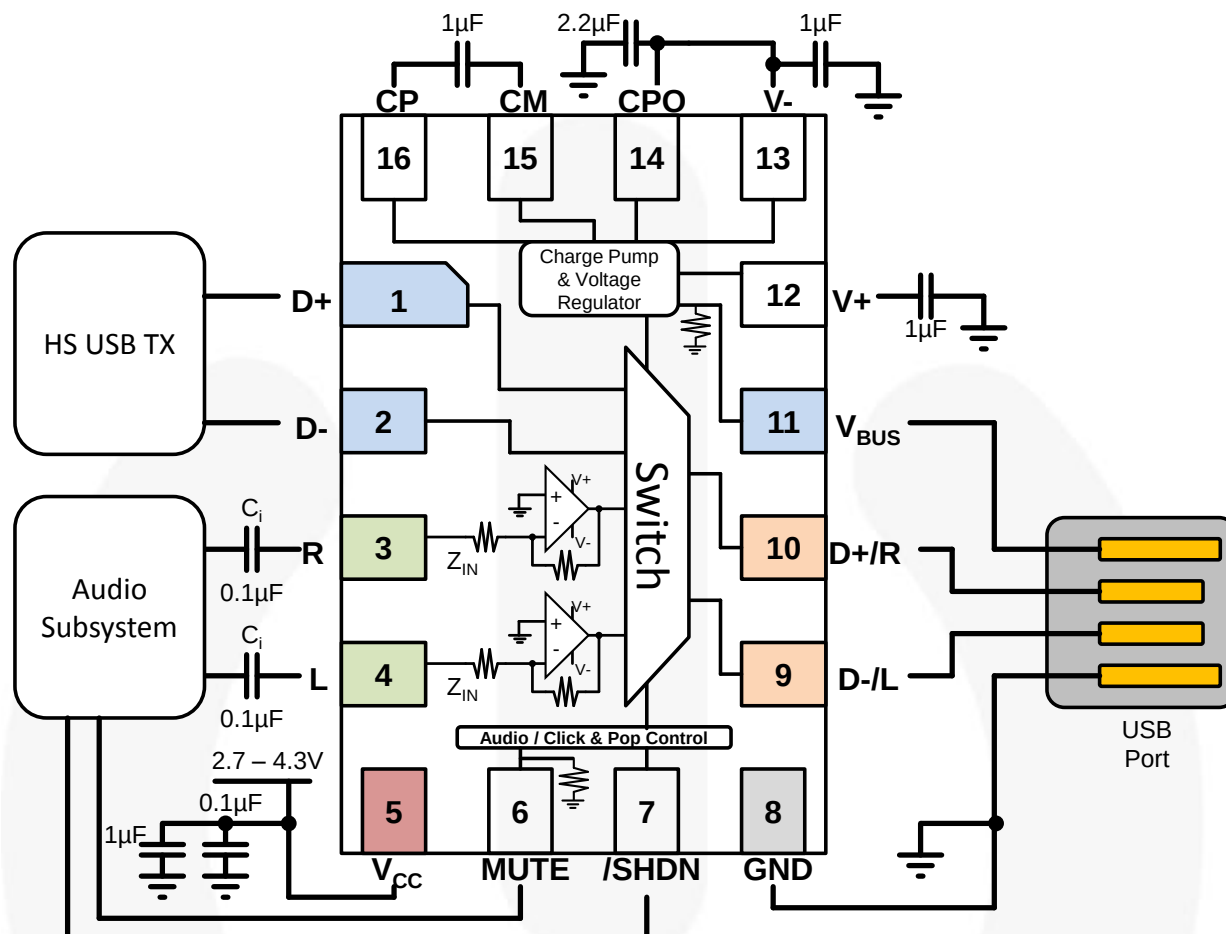

Figure 4. Micro-USB Application
- **PIN15, 16** - The charge pump has been optimized for low-ESR ceramic capacitors for the flying capacitor between CP and CM, along with the output capacitors on V+, CPO, and V-. Optimized values for these capacitors are in Figure 4.